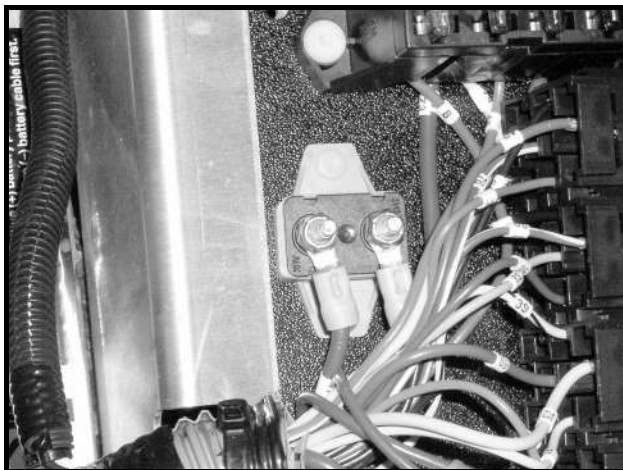

Figure 11b-30 50-Amp Circuit Breaker
2. Remove the electrical component cover, and locate the 50-amp circuit breaker on the electrical component mounting plate (**Figure 11b-30, Page 11b-32**).